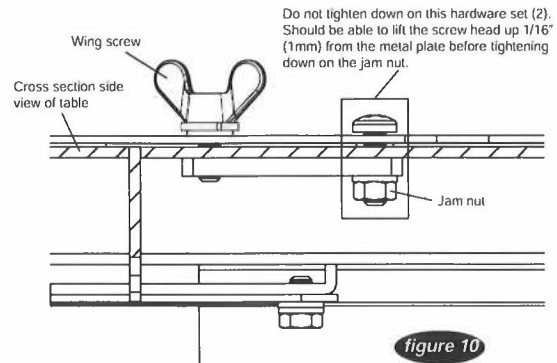

figure 10
6. Reattach the removed hardware using guideline as shown in figure 10.